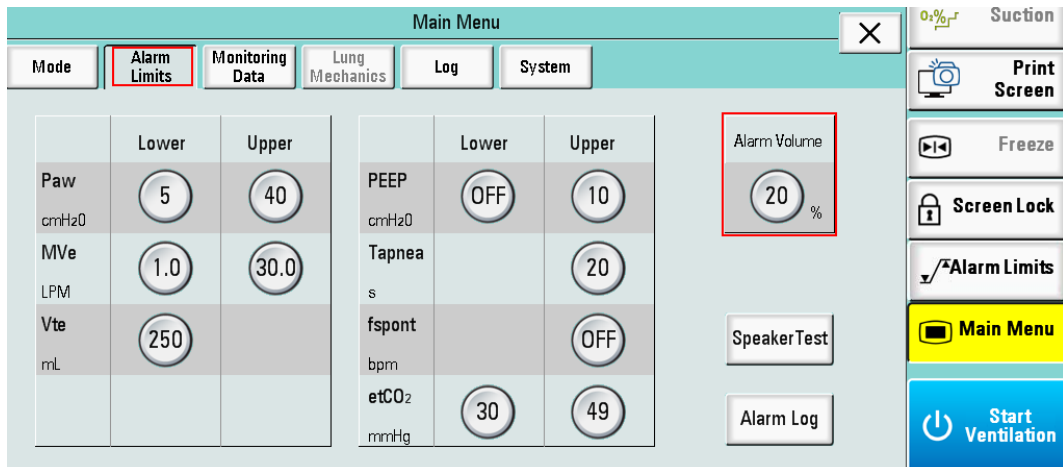

Figure 6-31
Step 1: Click “Alarm volume” when the button’s background color becomes yellow, then you can adjust the level of alarm volume, as shown in Figure 6-31.